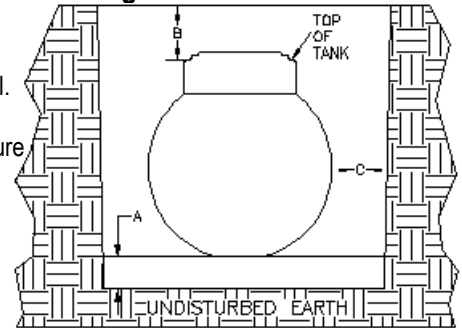

Figure 1
1. Excavation (Figure 1)
- c. Excavate and provide a well-compacted support layer of sand / gravel mixture so that dim. (A) is a min. of 6" for soil terrain and 12" for rock terrain.
- d. Allow dim. (B) to be a min. of 8" and a max. of 36".
- e. Allow dim. (C) to be a min. of 18" and a max. of 24".